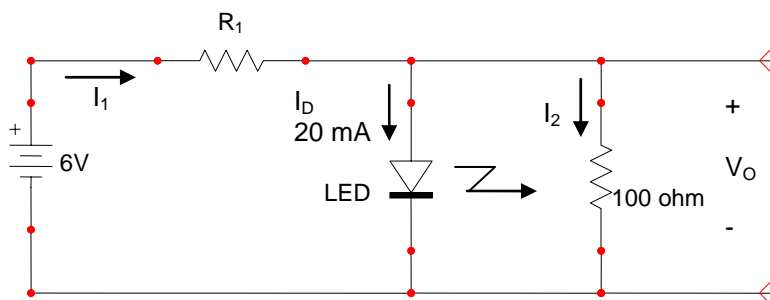

Figure 7
- The circuit is re-drawn to include the unknown R_1 in fig.7.